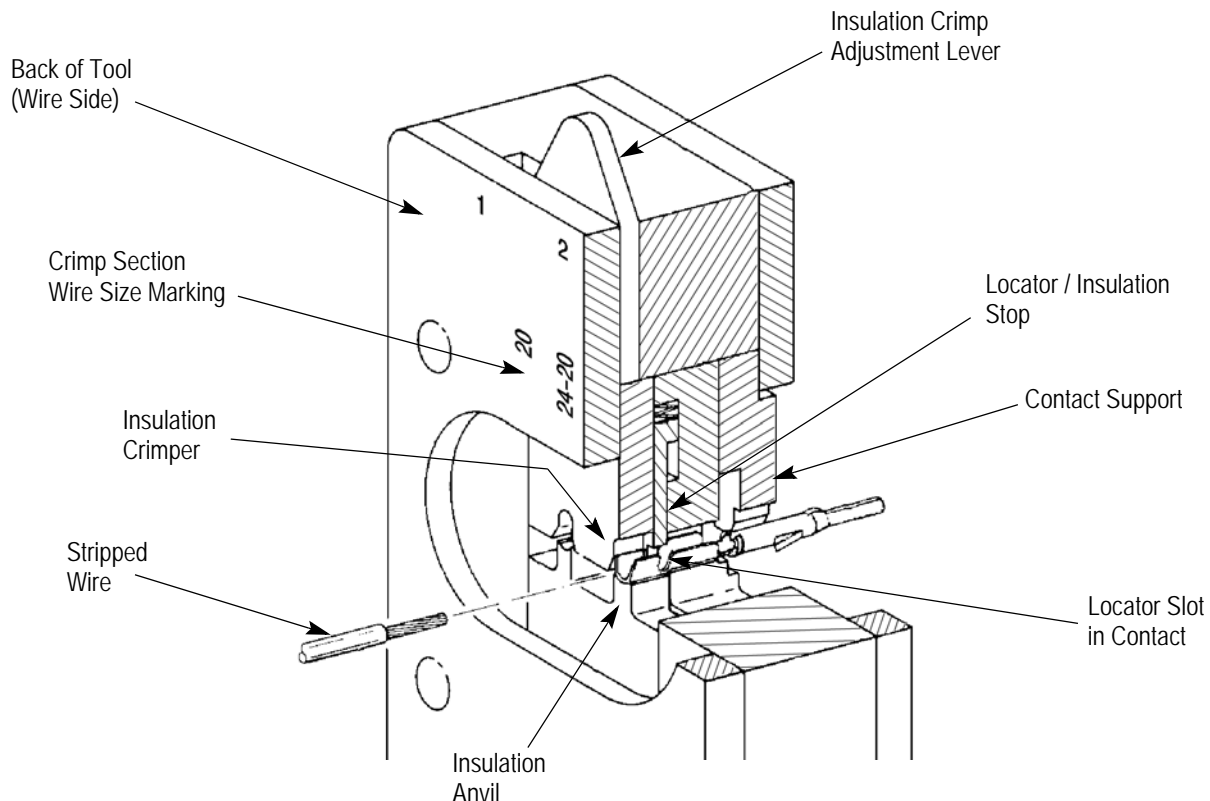

Figure 3
3. Looking straight into the back of the tool, insert the contact (insulation barrel first) into the front of the appropriate crimp section. See Figure 3.